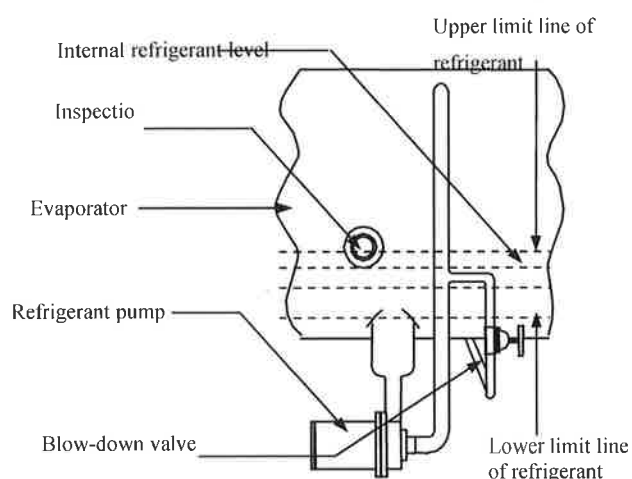

Figure 8-2 Blow-down [2]
① convert 『control valve manual』 switch to **MANUAL** and close the control valve to 30%~50% to make low-input energy state. For this, it is desirable to lower the temperature of generator down to 100~120°C.
② Rotate the blow-down valve counterclockwise as in Figure 8-2 to open it.
③ Check the amount of refrigerant through the inspection window of evaporator.
④ Close the blow-down valve when the amount of refrigerant reduced down to the bottom level.
⑤ Be aware that refrigerant moves over to an absorber through the blow-down valve and then a